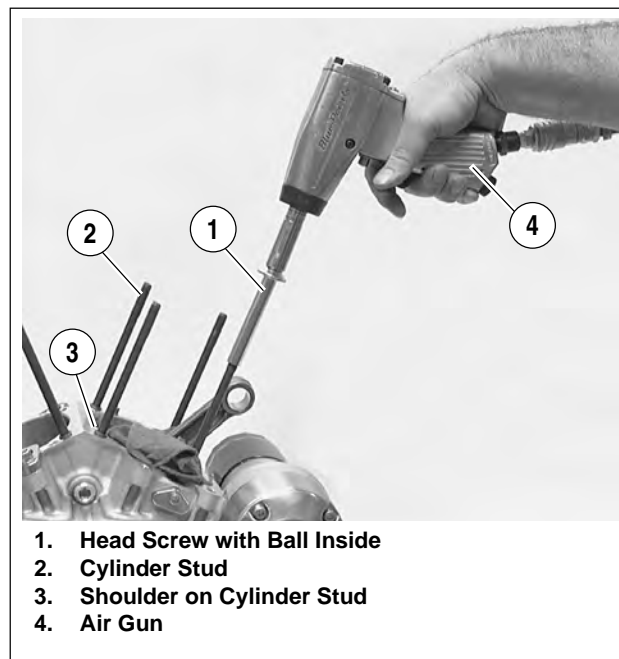

Figure 3-140. Cylinder Studs
14. See Figure 3-140. Install cylinder studs.
- b. Place a steel ball into a head screw (1).
- c. The cylinder studs (2) have a shoulder (3) at the lower end. Place the end of the stud without the shoulder into the head screw.
- d. Install the stud in the crankcase with the shoulder end down. Use an air gun (4) to drive the stud until the shoulder reaches the crankcase.